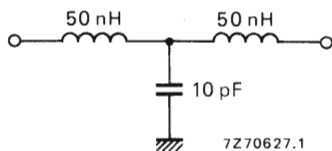
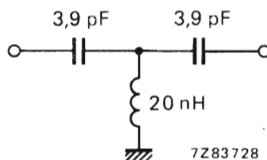

Fig. 13.
Fig. 14.
- A low-pass filter (Fig. 13) with a cut-off frequency of about 300 MHz has to be inserted between the v.h.f. aerial terminal of the tuner and the aerial terminal of the receiver, and a high-pass filter (Fig. 14) with a cut-off frequency of 350 MHz between the u.h.f. aerial terminal of the tuner and the aerial terminal of the receiver.